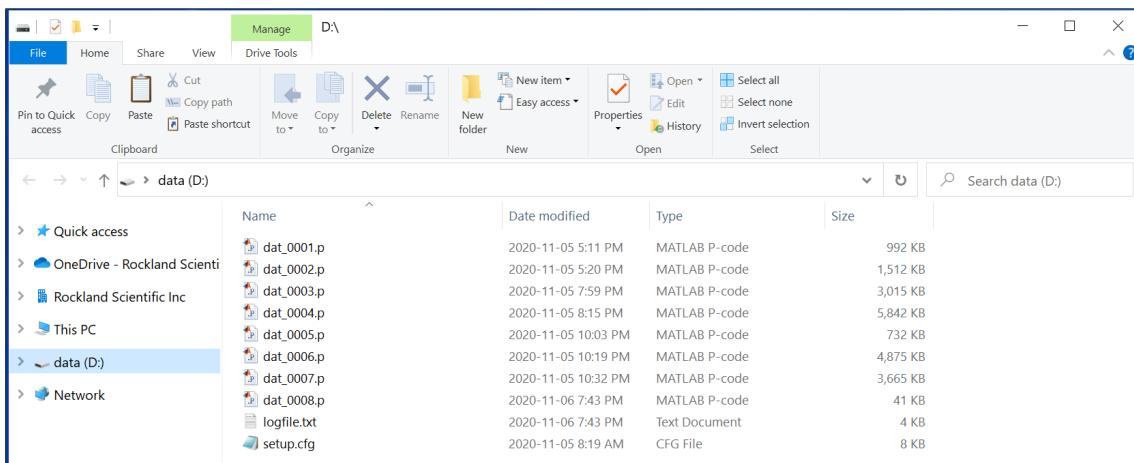

Figure 25: Connecting to the instrument as a mass storage device.
7. Double click on the Data Drive to open it and view the contents of the RDL Memory Module on the instrument (Figure 25).